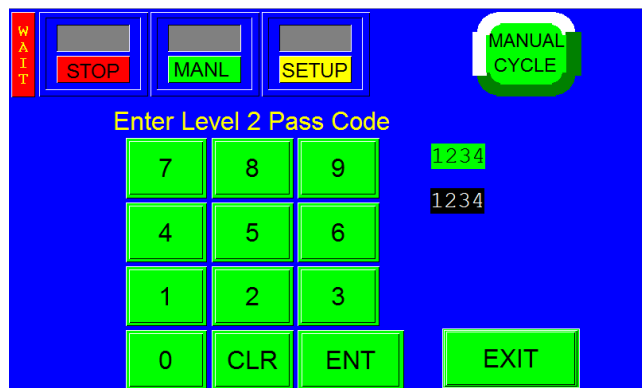

Figure 3-56
2. **Level 2:** This level pass code, when the pass code function is enabled, prevents the operator from accessing settings screens that affect the operation of the equipment. To change this code, press the **Level2 PW** button on the Password Setup Screen, enter a new code on the numeric keypad, and press the **ENT** button. See Figure 3-56.